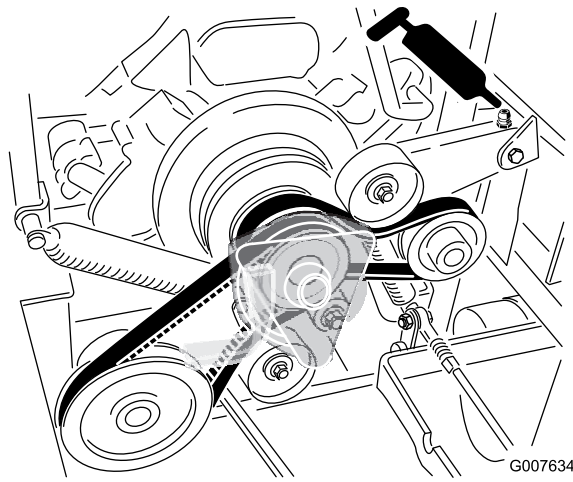

Figure 30
5. Grease the pump belt idler arm (Figure 30).